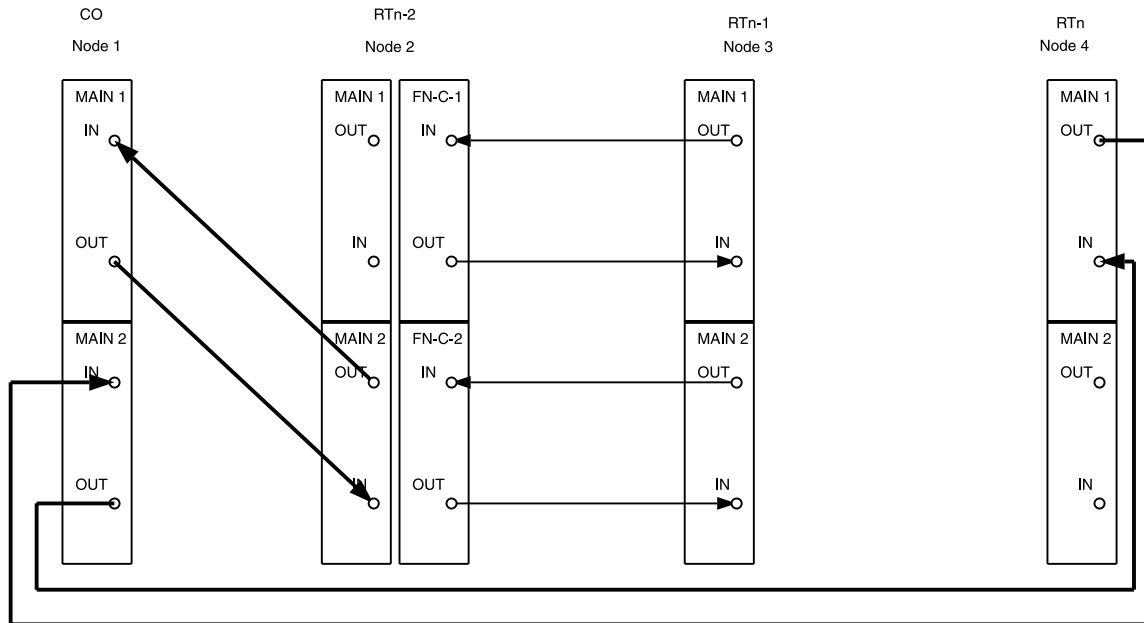

Figure 20 – DDM-2000 OC-3 Drop Network to Ring Upgrade
42. At Node 3, disconnect the fibers from **FN-C-2(P) OLIUs**. Remove the **OLIUs** from **FUNCTION UNIT C** slots. Momentarily depress the **UPD/INIT** button on the **SYSCTL**. (See Figure 20.)